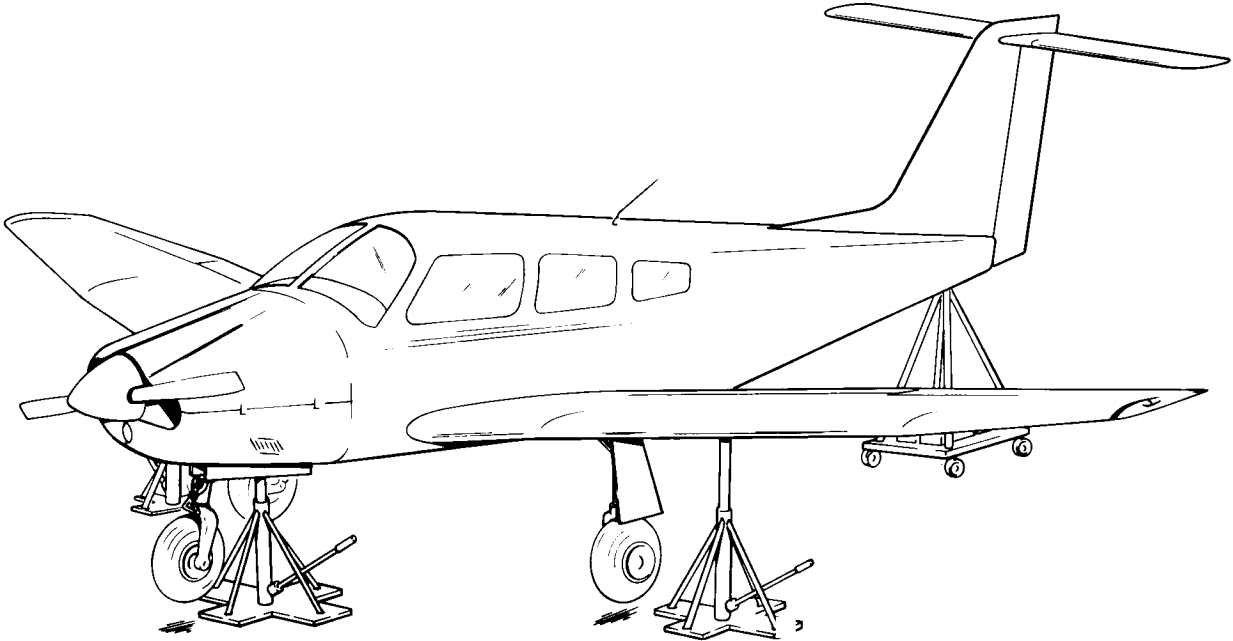

Figure 7-1. Jacking Arrangement
1. Place jacks under jack pads on the front wing spar. (Refer to Figure 7-1.)